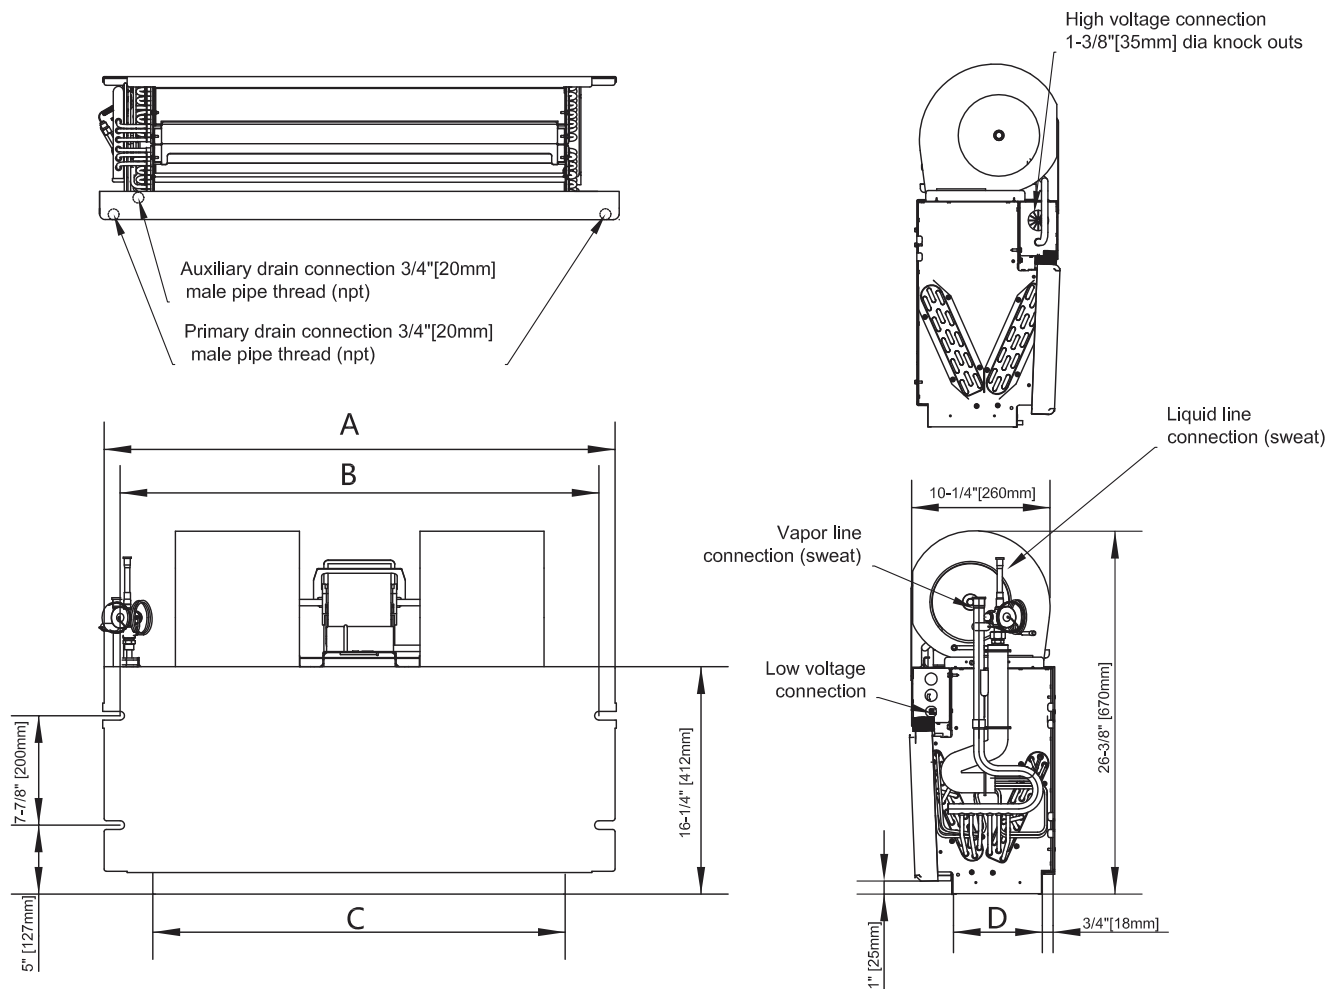
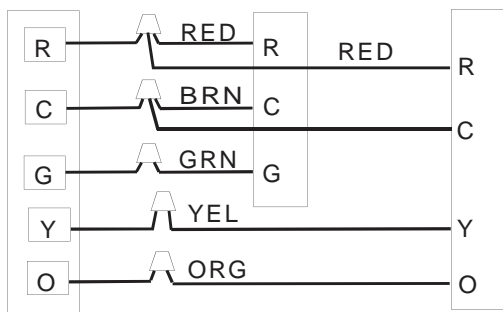

Fig. 1 - Dimensional Drawing
Fig. 3 - Wiring Layout Heat Pump Unit (Cooling and 1-Stage Heat)
See Figs. 3 and 4 for field low-voltage wiring. See Fig. 1 for location of the electrical inlets. For maximum ampacity and over-current protection, see unit rating plate or product data sheet.
4. Connect low-voltage leads to thermostat and outdoor unit. See Figs. 3 and 4, as well as the outdoor unit wiring label.
5. Connect per Fig. 3 when electric heat is NOT used with a heat pump.